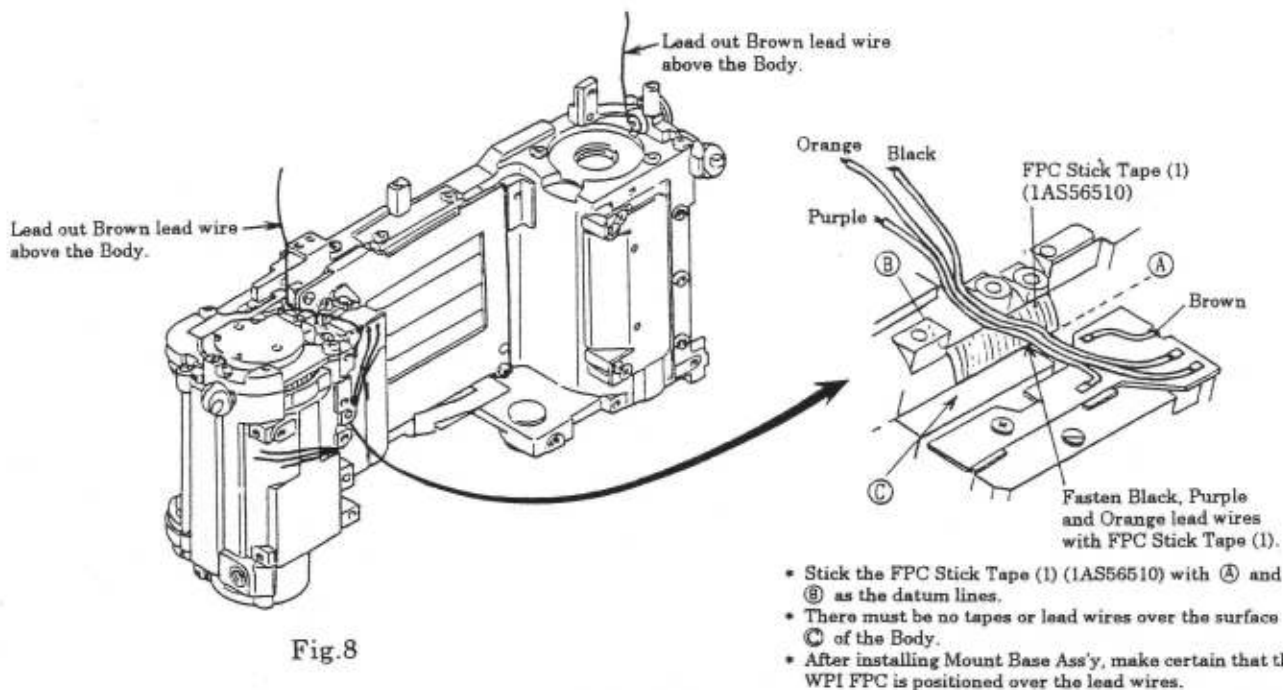

Fig.8
- a) Before installing the Winding Base Plate Ass'y (1ASG0000), Winding Unit Ass'y (1ASW0000) and Mount Base Ass'y (1ASM0000), dress the lead wires and FPCs as shown in Fig. 8. At Installation, take care not to catch any lead wires or FPC between the Body and the Ass'y.
- When the Shutter Unit has been replaced, stick the Shutter Tape (1) (1AS36200), Shutter Tape (2) (1AS36300) and Shutter Light Shield Sheet (1AS35100).
- After installing the Shutter Unit, fasten the lead wires of the Shutter Unit with the FPC Stick Tape (1) as shown in Fig. 8.